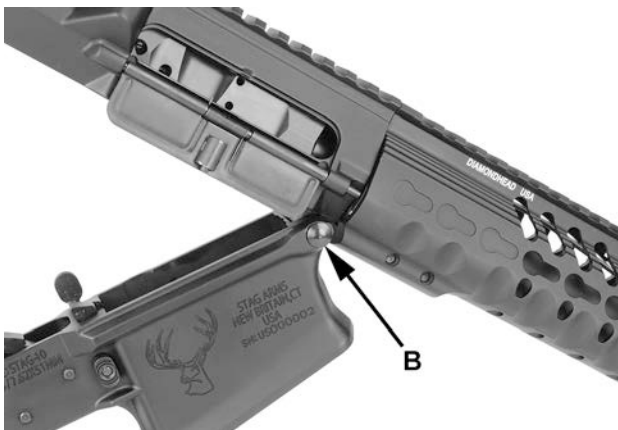

Figure 26
Note: The upper and lower receivers may be separated by pulling out pivot pin (B). See figure 26.